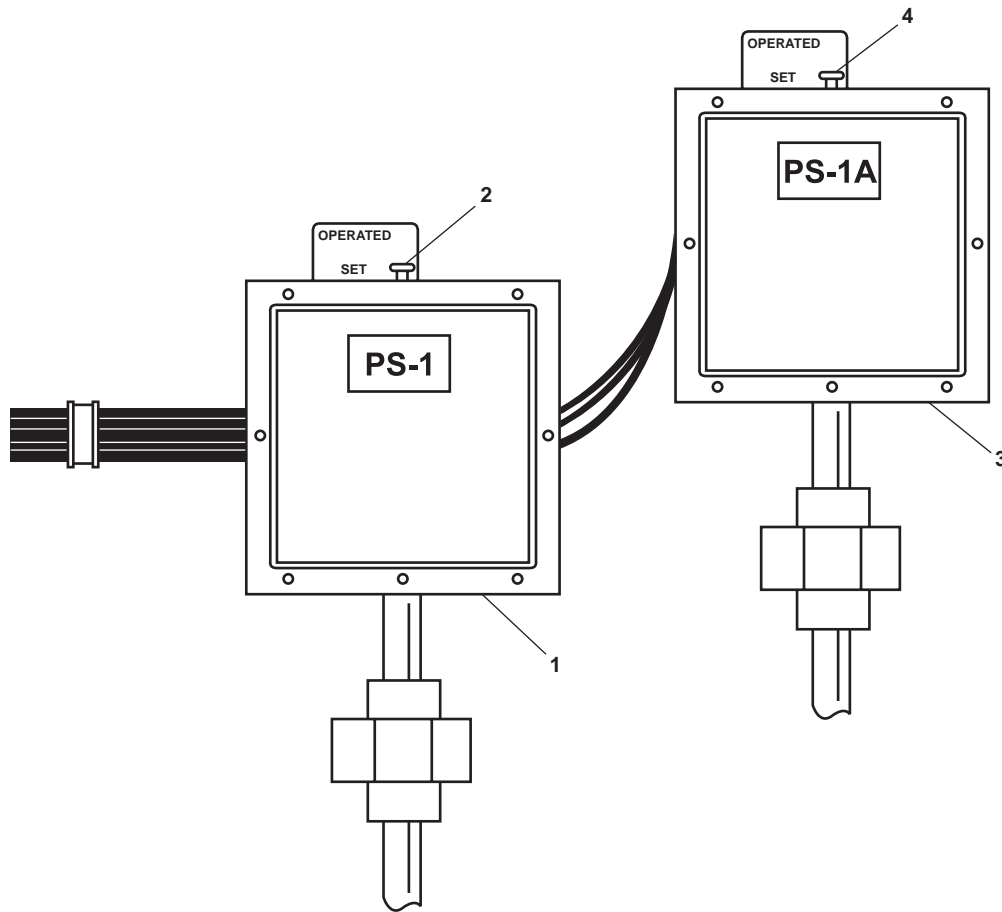

Figure 1. Testing of FM-200 Pressure Switches PS-1 and PS-1A
1. Ensure that the equipment controlled by pressure switch PS-1 (figure 1, item 1) identified below has been powered up and is operating normally (TM 55-1925-273-10):
3. Manually operate pressure switch PS-1 (figure 1, item 1) by pulling up on the plunger (figure 1, item 2) to the OPERATED position.
6. Verify that the equipment controlled by pressure switch PS-1 (figure 1, item 1) identified in step 1 of this work package is no longer operating.
10. Manually operate pressure switch PS-1A (figure 1, item 3) by pulling up on the plunger (figure 1, item 4) to the OPERATED position.
12. Return pressure switch PS-1A (figure 1, item 3) to the SET position by pressing down on the plunger (figure 1, item 4).